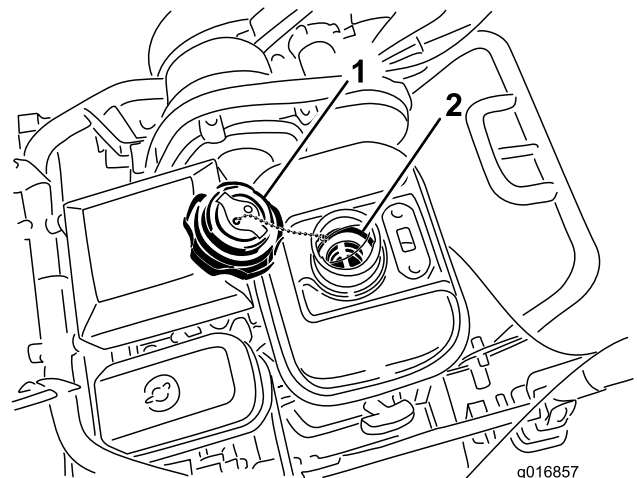

Figure 37
3. Unscrew and remove the fuel tank cap from the fuel tank (Figure 37).